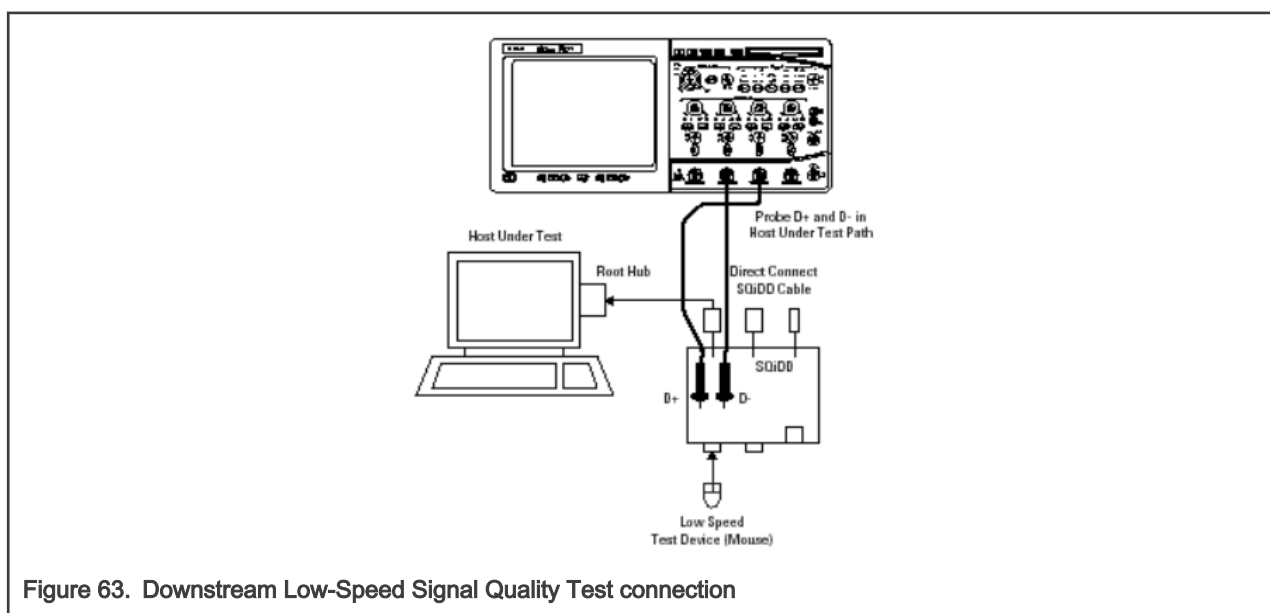

Figure 63. Downstream Low-Speed Signal Quality Test connection
2. Connect the Embedded Host under test, mouse, and the SQiDD, as shown in Figure 63. Set the switch on SQiDD board to ON. The test is for Embedded Host, so use the Embedded Host board to replace the PC in Figure 63.